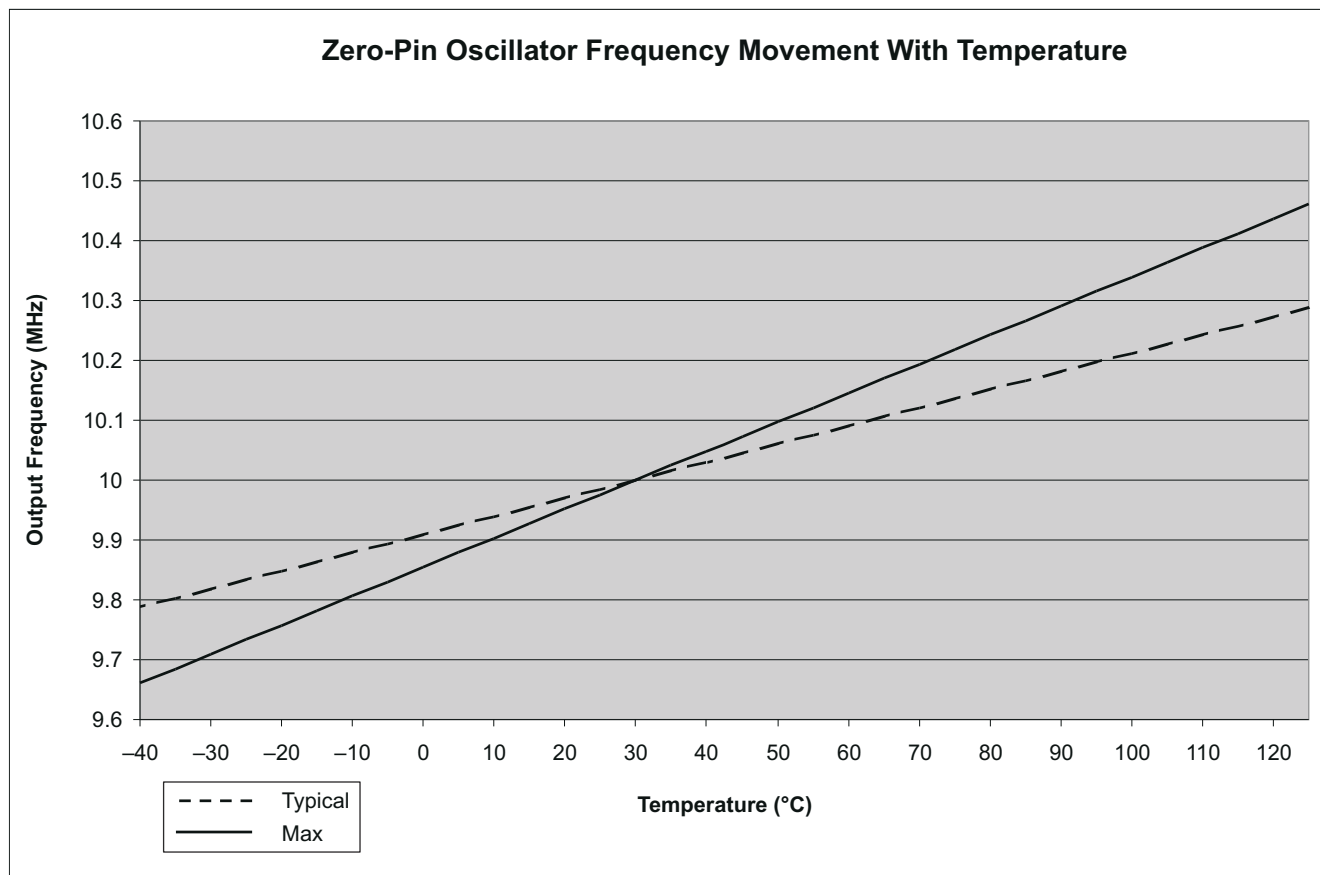

Figure 6-9. Zero-Pin Oscillator Frequency Movement With Temperature
- (1) Oscillator frequency will vary over temperature, see Figure 6-9. To compensate for oscillator temperature drift, see the Oscillator Compensation Guide and C2000Ware.
- (2) Frequency range ensured only when VREG is enabled, $\overline{\text{VREGENZ}} = V_{\text{SS}}$.
- (3) Output frequency of the internal oscillators follows the direction of both the temperature gradient and voltage (V_{DD}) gradient. For example: